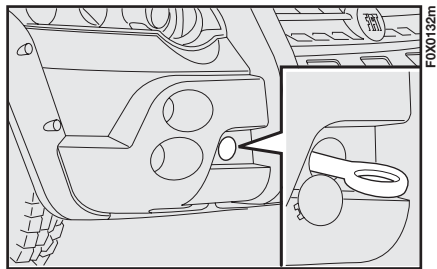

fig. 149
- 2) Remove the cover on the front bumper fig. 149, prising it up using a screwdriver in the notch on the cover.